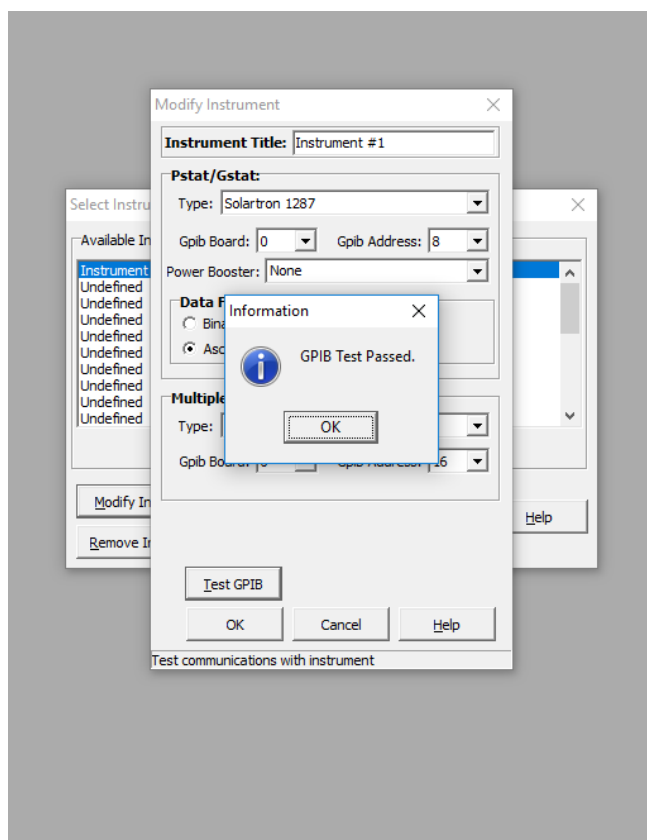

Figure 2
Click on “modify instrument”, then “Test GPIB”. If the test passes, you should see a message as shown in figure 2 below. This indicates working communication between the potentiostat and your PC, and you should be ready to proceed with using the 1287A.
- d. After choosing the appropriate address, click “Test GPIB”. You should now see a screen as shown in Figure 2, indicating that the test passed. If the test fails, please see section 5 for common causes of connection and communication failures and contact help at Ametek/Solartron at <http://www.ameteksi.com/contact-us/contact-technical-support> if needed.